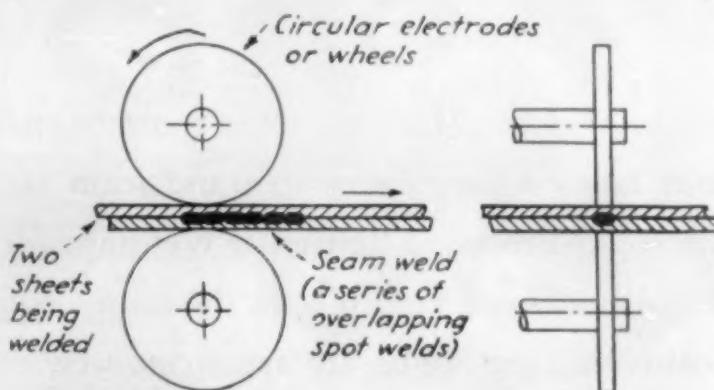

Fig. 3. Diagram of Arrangement of Electrodes and Work in Seam Welding Operation
**Seam Welding**—Seam welding is another important AC sheet metal joining process. This type of welding is usually restricted to mass production industries where straight or circular welds are needed. A seam weld is actually a series of overlapping spot welds. For a schematic diagram of seam welding, see Fig. 3. It can be seen from this diagram that instead of tips to carry the current (as in spot welding), wheels are used.